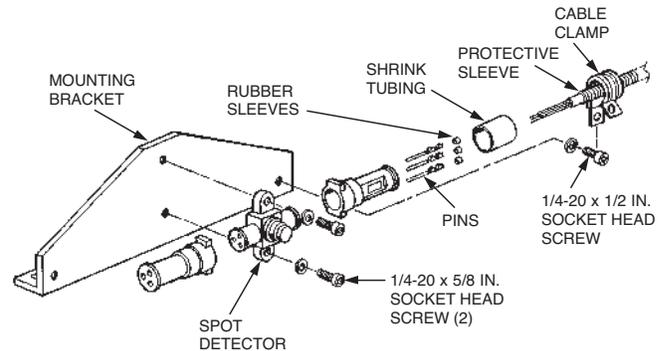

FIGURE 28
2. Attach the correct temperature range spot detector to the bracket using (2) two flatwashers and (2) two 1/4-20 x 5/8 in. socket head screws supplied in detector clamp package. See Figure 28.
4. The circuit cable is 3 conductor. It consists of two insulated wires and one bare ground wire. Cut all wires equal in length and strip the outer jacket and inner sheath back 1 1/4 in. (32 mm). **Note:** Make certain not to cut into the insulation on the two insulated wires or cut into the bare ground wire. See Figure 28.